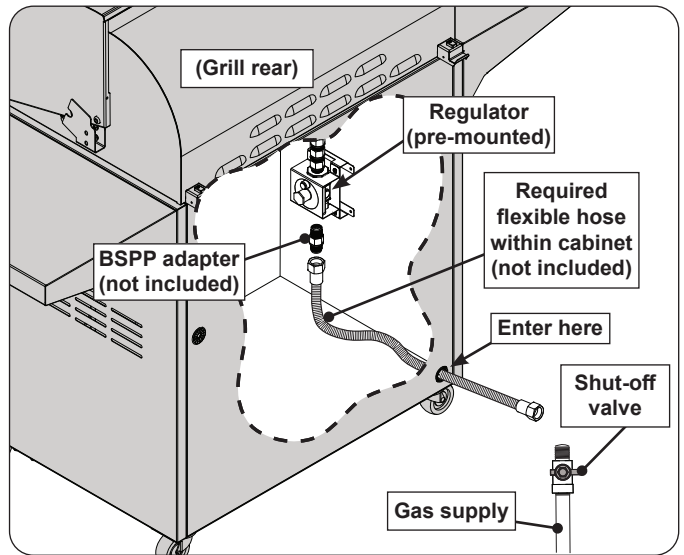

Fig. 18-1 Gas connection diagram
2. Run the gas supply into the grill cabinet through the rear opening and route to the regulator (1/2" BSPP female). The regulator is pre-mounted to the left side wall, inside the grill cabinet. See Fig. 18-1.